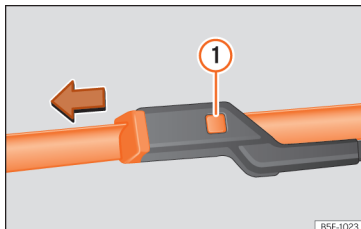

Fig. 81 Changing the windscreen wiper blade.
- Press the securing tab down ① »» Fig. 81.